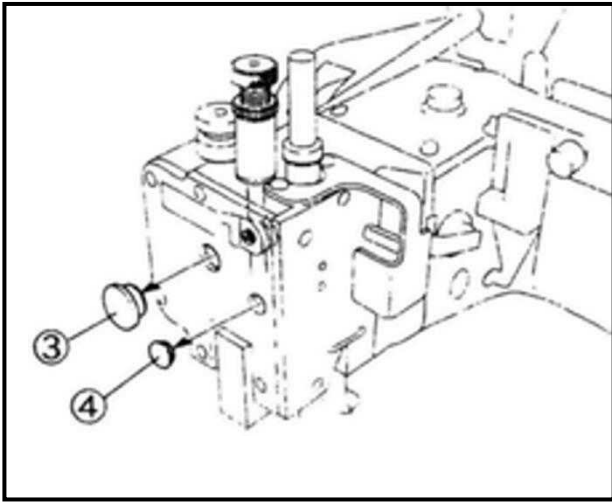

Fig.5
- (1) 移除油塞③④才可以检查间隙。(Fig.5)
- ① Remove the seal plugs ③ ④ to check the clearance.(Fig. 5)